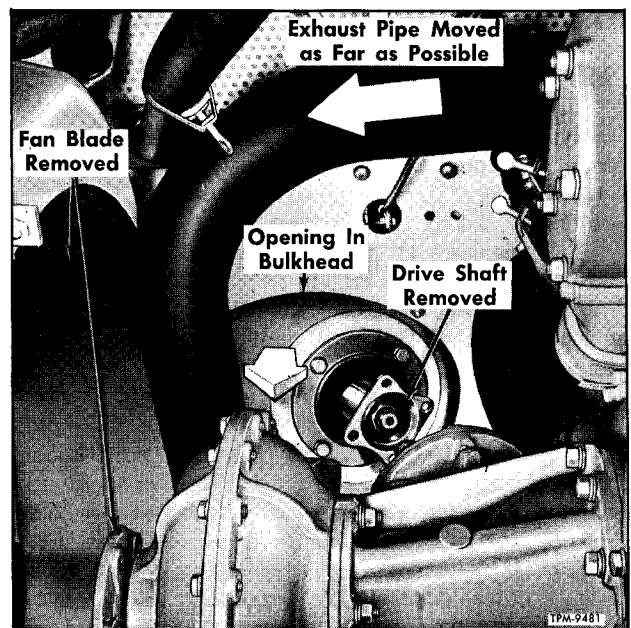
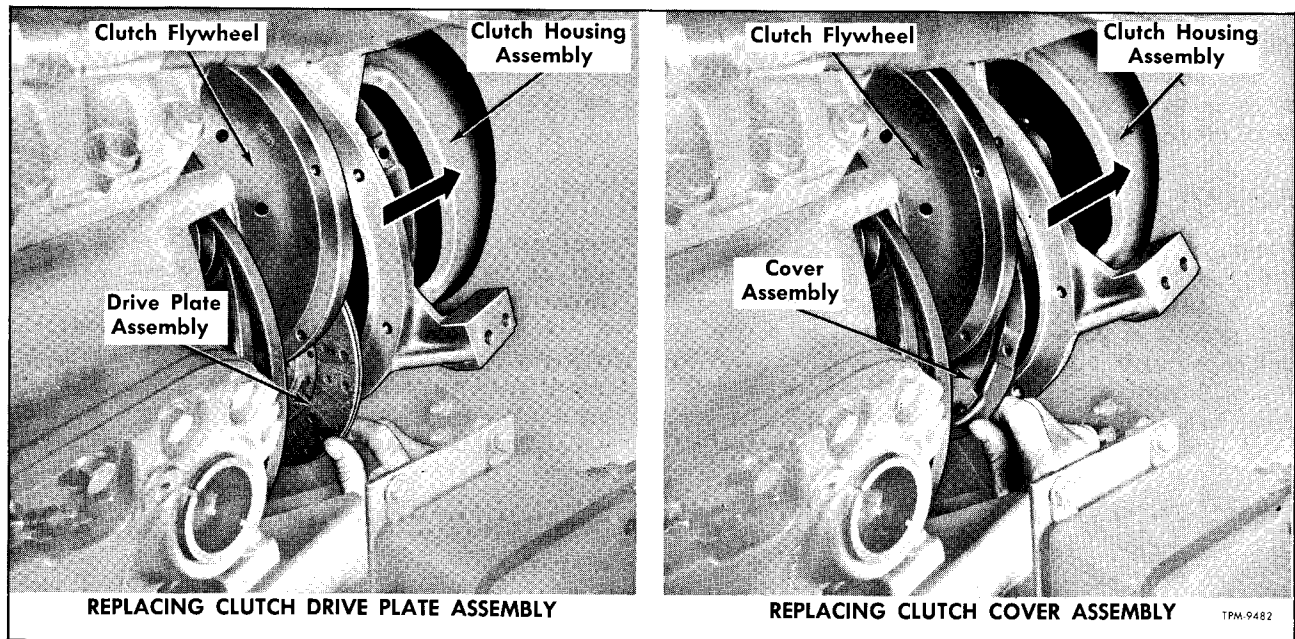

Figure 99—Access To Clutch Housing Through Engine Compartment
Figure 100—Replacing Clutch Drive Plate and Cover (Compressor in Coach)
5. Remove fan blade from engine. Through access hole in seat-back above engine, disconnect exhaust pipe from exhaust manifold. Also loosen exhaust pipe at muffler base. Move exhaust pipe toward radiator as far as possible. See figure 99.
10. Referring to figure 99, move clutch housing rearward into propeller shaft opening in body bulkhead. With the aid of an assistant to retain housing in position, remove cover attaching bolts, then work clutch drive plate and cover assembly from clutch housing in manner shown in figure 100.
1. Referring to figure 100, insert clutch cover and drive plate into clutch housing as shown.